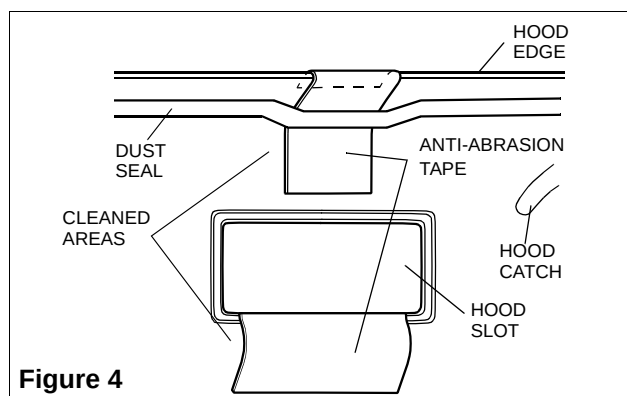

Figure 4
4. Open hood and refit Deflector to hood aligning bracket assemblies with hood slots on both sides of hood latch by carefully sliding assemblies between hood and hood dust seal (SEE Figure 3). **BE CAREFUL NOT TO SCRATCH PAINTED SURFACE.** Mark the location of the brackets in relation to the underside and leading edge of the hood. Remove Deflector, remove bracket assemblies. Clean noted areas using the alcohol wipe provided. Wipe away alcohol residue with a clean dry cloth. At each marked area, install a large anti-abrasion tape square 2/5" on outer surface of hood, and 3/5" on underside of hood. Install a second anti-abrasion tape square horizontally so that it aligns with lower edge of hood slot (see Figure 4).